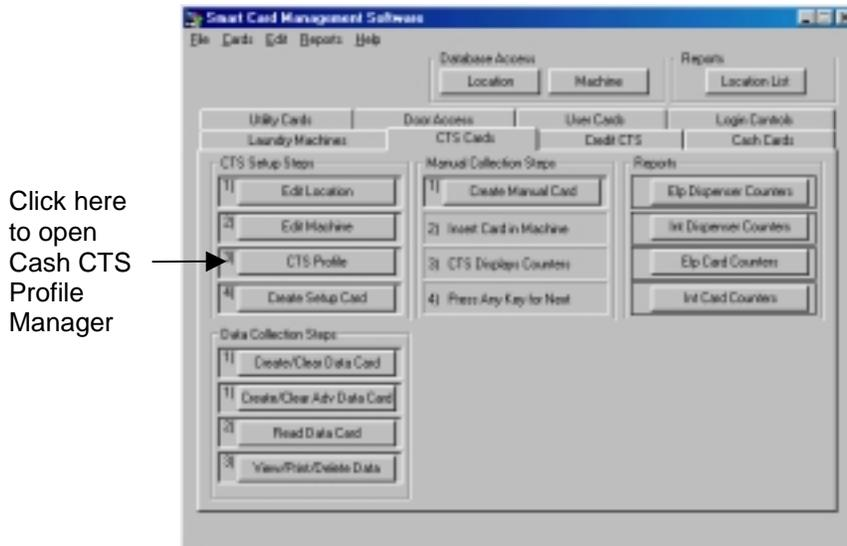

Figure 9.2 Opening the Cash CTS Profile Manager
1. In the Cash CTS Cards tab, click the Cash CTS Profile button (Figure 9.2).
1. In the Cash CTS Cards tab, click the Cash CTS Profile button (see Figure 9.2).